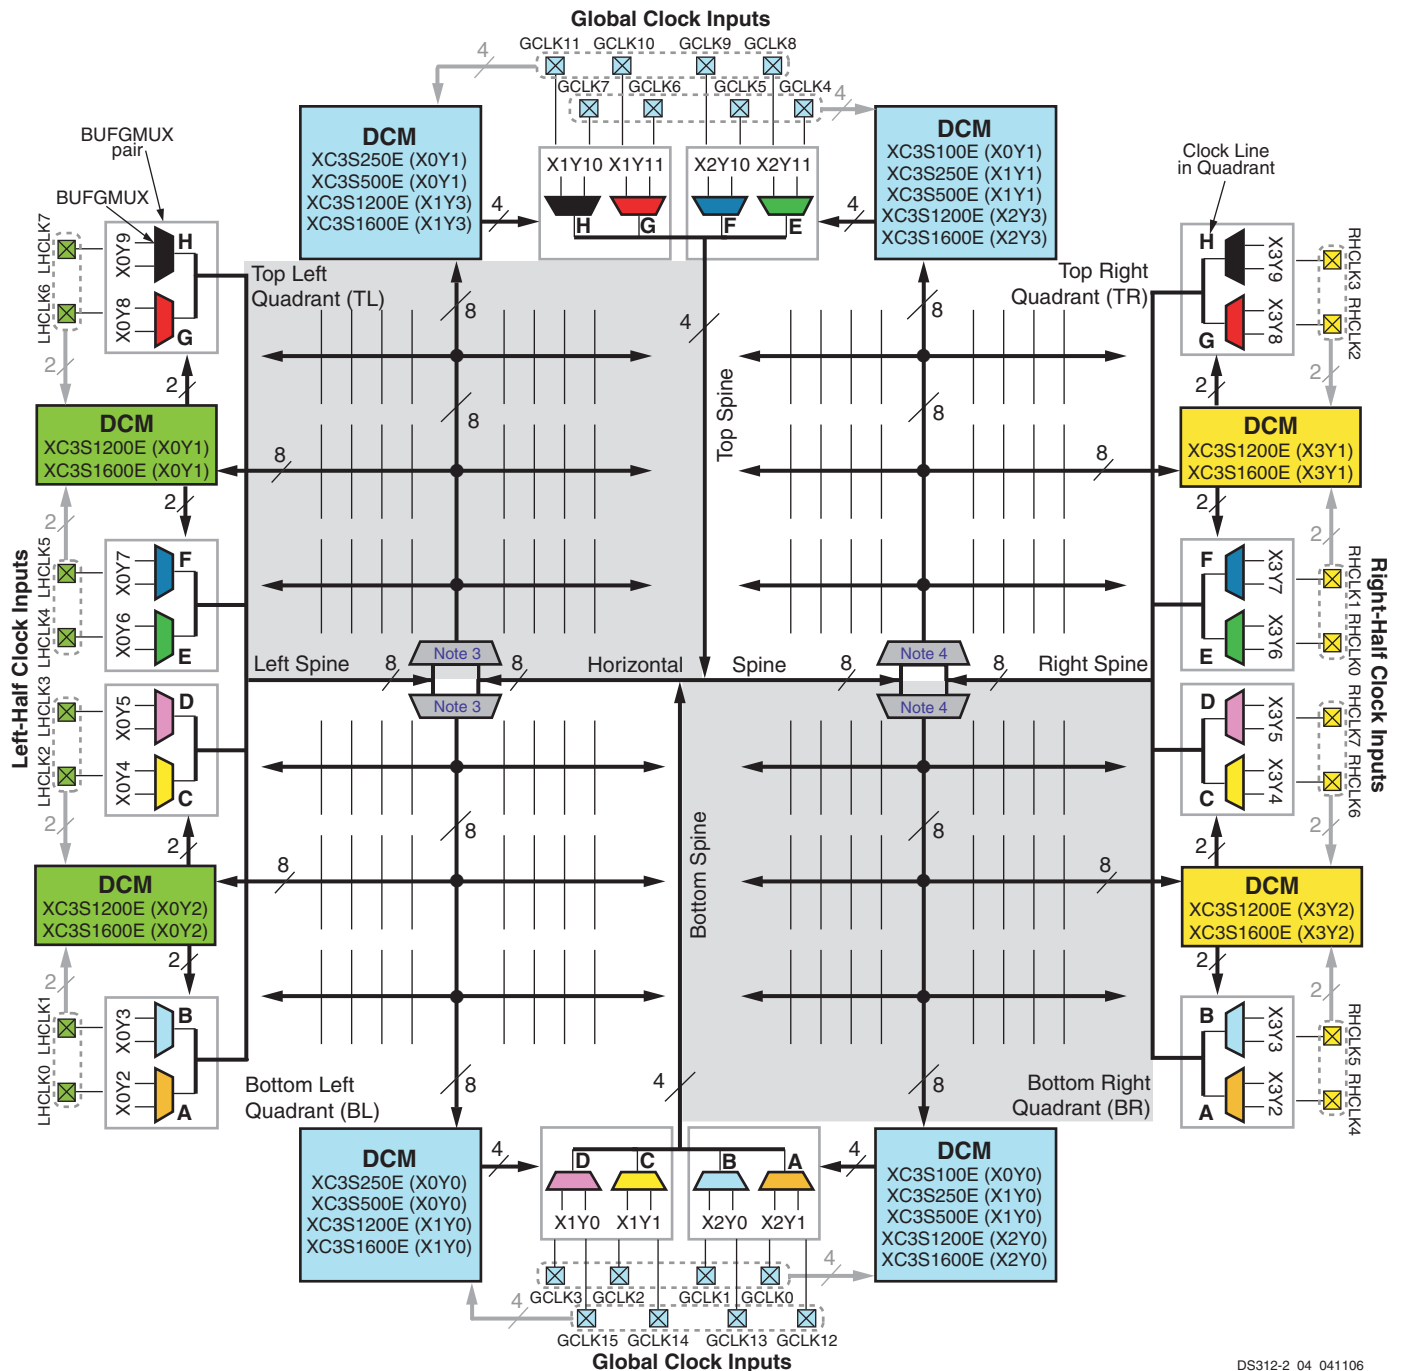

Figure 45: Spartan-3E Internal Quadrant-Based Clock Network (Electrical Connectivity View)
The Spartan-3E clocking infrastructure, shown in Figure 45, provides a series of low-capacitance, low-skew interconnect lines well-suited to carrying high-frequency signals throughout the FPGA. The infrastructure also includes the clock inputs and BUFGMUX clock buffers/multiplexers. The Xilinx Place-and-Route (PAR) software automatically routes high-fanout clock signals using these resources.
The I0 and I1 inputs to an BUFGMUX element originate from clock input pins, DCMs, or Double-Line interconnect, as shown in Figure 46. As shown in Figure 45, there are 24 BUFGMUX elements distributed around the four edges of the device. Clock signals from the four BUFGMUX elements at the top edge and the four at the bottom edge are truly global and connect to all clocking quadrants. The eight left-edge BUFGMUX elements only connect to the two clock quadrants in the left half of the device. Similarly, the eight right-edge BUFGMUX elements only connect to the right half of the device.
The four BUFGMUX elements on the top edge are paired together and share inputs from the eight global clock inputs along the top edge. Each BUFGMUX pair connects to four of the eight global clock inputs, as shown in Figure 45. This optionally allows differential inputs to the global clock inputs without wasting a BUFGMUX element.
2. See Figure 45 for specific BUFGMUX locations, and Figure 47 for information on how BUFGMUX elements drive onto a specific clock line within a quadrant.
The clock routing within the FPGA is quadrant-based, as shown in Figure 45. Each clock quadrant supports eight total clock signals, labeled 'A' through 'H' in Table 41 and Figure 47. The clock source for an individual clock line originates either from a global BUFGMUX element along the top and bottom edges or from a BUFGMUX element along the associated edge, as shown in Figure 47. The clock lines feed the synchronous resource elements (CLBs, IOBs, block RAM, multipliers, and DCMs) within the quadrant.
The outputs of the top or bottom BUFGMUX elements connect to two vertical spines, each comprising four vertical clock lines as shown in Figure 45. At the center of the die, these clock signals connect to the eight-line horizontal clock spine.